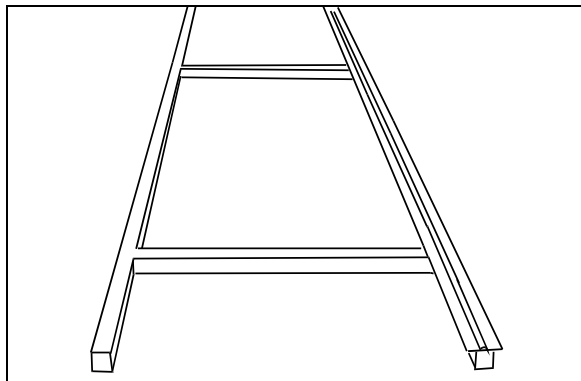

FIGURE 36: SUPPORT RAIL INSTALLATION
2. Set the support rail (Prévost #29261) down (Fig. 36). Using shims, adjust its level to stabilize it.
1. Set the support rail (Prévost #29261) down (Fig. 36). Using shims, adjust its level to stabilize it. Use previous reference marks to ensure proper positioning.